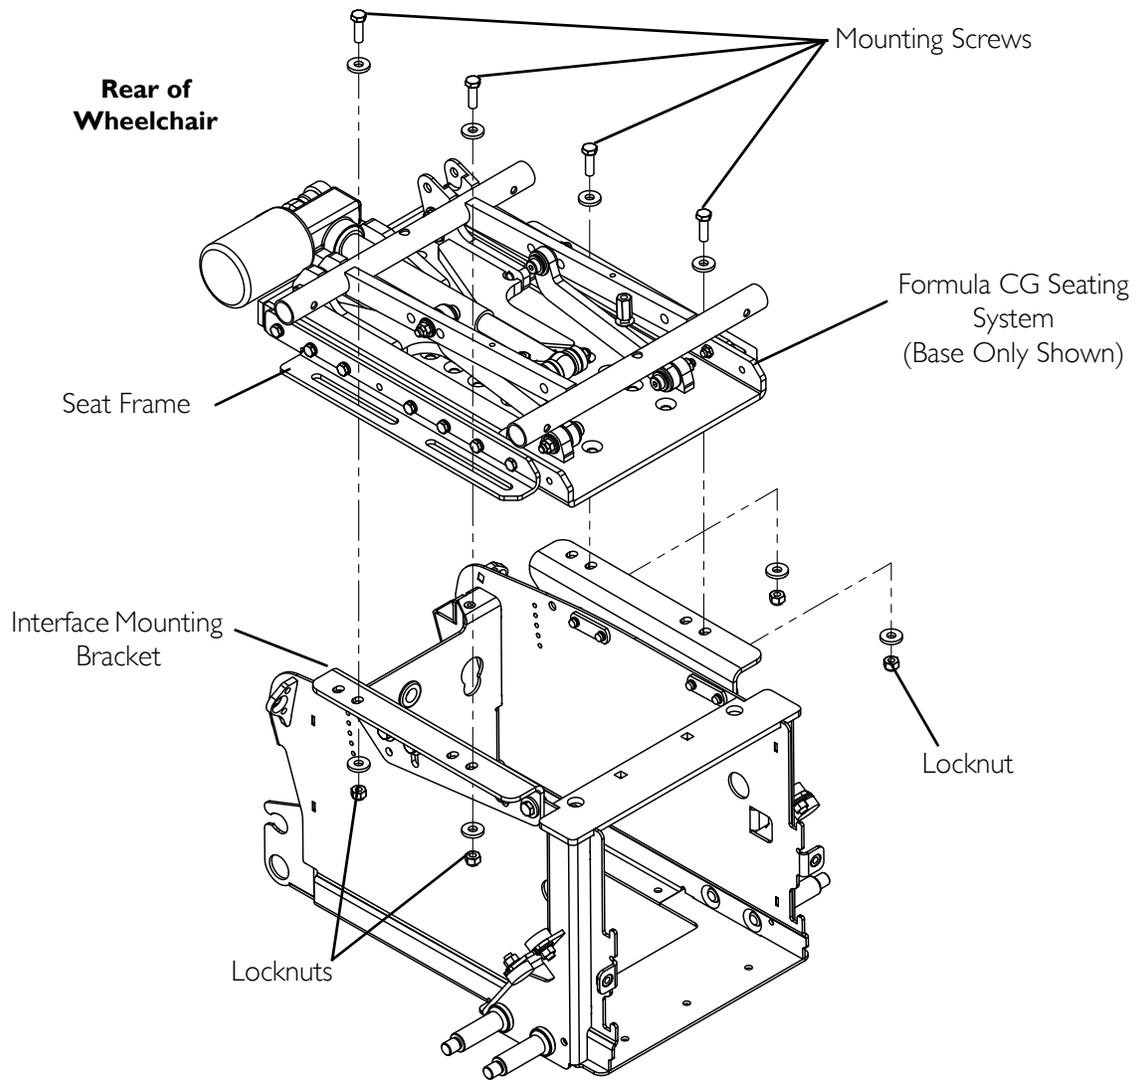

FIGURE 9 Adjusting the Seating System Mounting Position
NOTE: For this procedure, refer to FIGURE 9 on page 67.
- Wheelchairs with Swing Away Front Rigging - Slide the seat frame as far as possible towards the rear of the wheelchair (FIGURE 9). Leave 1 to 1½-inch of clearance between the front riggings and the front casters in all caster positions.
- Wheelchairs with Manual or Power Center Mount Front Rigging - Slide the seat frame as far as possible towards the rear of the wheelchair (FIGURE 9). Leave 1 to 1½-inch of clearance between the center mount front riggings and the front shroud.